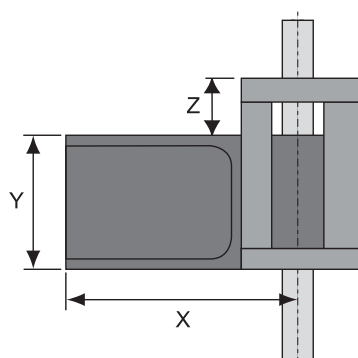

Fig. 3-12 Insulation block dimensions
a) See Fig. 3-12, 2 3-44
a) See Fig. 3-12 , 2 3-44